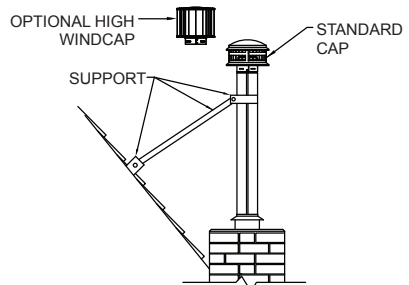

Figure 17
Step 5. For improved draft, the vent may be extended in height above the top of the masonry chimney by simply adding additional lengths of B-Vent Pipe. If the vent is more than 3 feet above the top of the chimney, secure it with a locally fabricated brace, as shown in **Figure 17**.